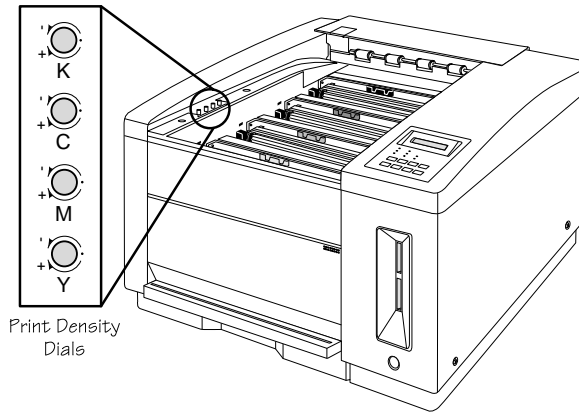

Fig. 5.6 *Print Density Adjustment Dials*
2. Locate the adjustment dials inside the printer to the front left (fig. 5.6).